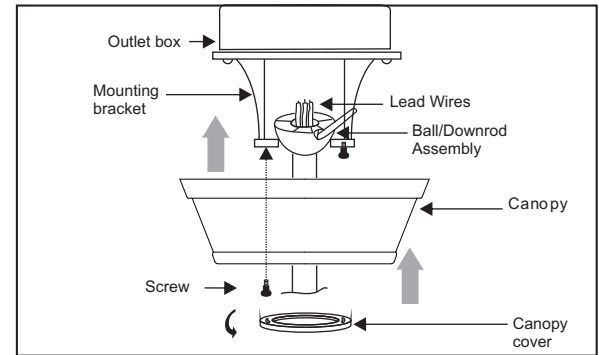

Figure 16
3. Align the canopy up to ceiling and over the loose screw. Place the canopy into key hole and rotate canopy clockwise. (Figure 16)
5. Place the canopy cover to the canopy and rotate canopy cover clockwise until it is locked into right position. (Figure 16)